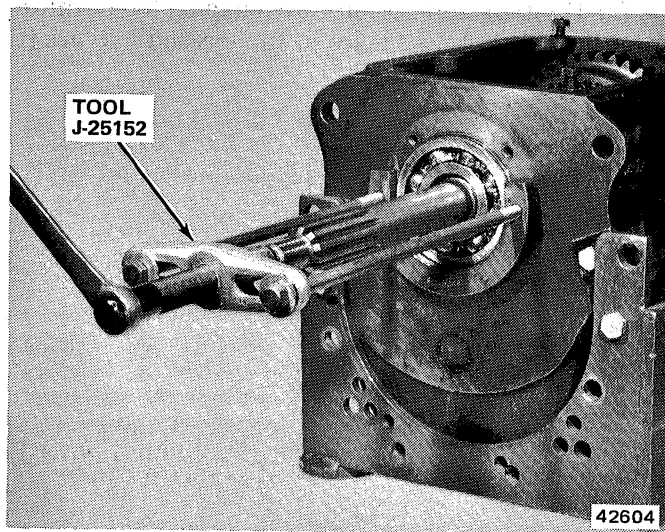

Fig. 2B-70 Front Bearing Removal
- (17) Remove clutch shaft through top of case.
- (18) Remove lock plate retaining bolt from countershaft and reverse idler gear shaft, and remove lock plate.
- (19) Tap countershaft toward rear of case using brass drift and hammer. Stop when end of shaft is approximately even with front inside edge of case bore.
- (20) Complete countershaft removal as follows:
(21) Tip case on side and remove countershaft gear and arbor tool as assembly.
(22) Remove countershaft gear thrust washers and any mainshaft pilot bearing rollers that may have fallen into case during mainshaft removal.
(23) Remove reverse idler gear shaft using brass drift through front bearing opening in case (fig. 2B-69).
(24) Remove arbor tool from countershaft gear and remove bearing rollers, washers and spacer.
(25) Remove snap rings, bearing rollers, washers and sleeve from reverse idler gear.
(26) Remove fill plug, drain plug and 22 clutch shaft needle bearings from case.
(27) Remove front bearing cap seal and rear adapter seal.